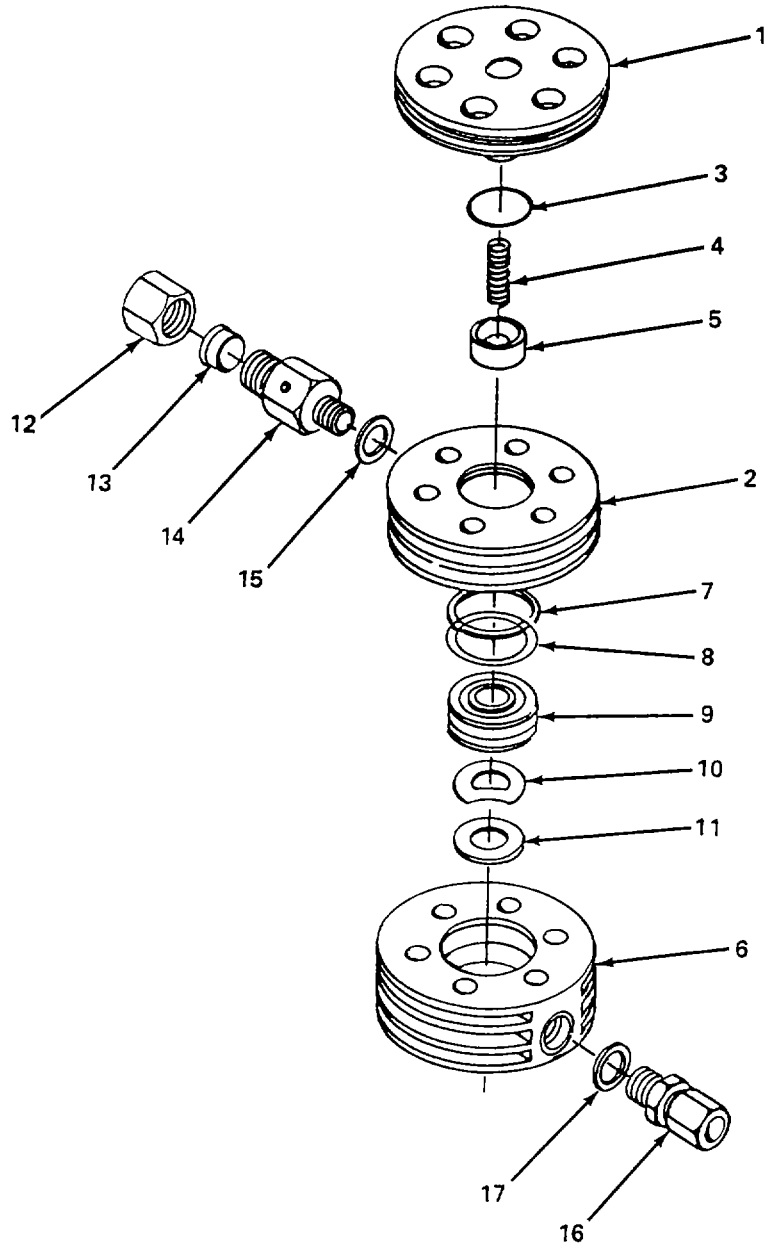

Figure 5-34. 4th Stage Valve Head Assembly, Repair.
b. Repair. (figure 5-34)
- (1) Remove 4th stage valve head assembly (para. a. above).